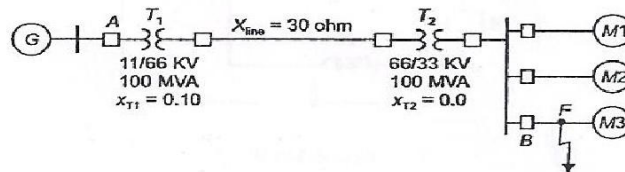

Fig. 8.13: Circuit diagram of Example 8.12.
**Example 8.12:** A 100 MVA, 11 KV generator with  $x_g'' = 0.20 \text{ pu}$  is connected through a transformer, and line to a bus bar that supplies three identical motor as shown in Fig. 8.13 and each motor has  $x_m'' = 0.20 \text{ pu}$  and  $x_m = 0.25 \text{ pu}$  on a base of 20 MVA, 33 KV. The bus voltage at the motors is 33 KV when a three phase balanced fault occurs at the point F. Calculate